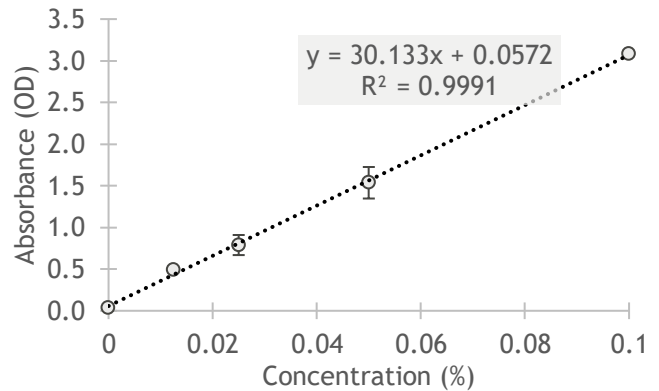

Figure 2-3 Example of a Trypan Blue Standard Curve
**Standard Curves:** Trypan Blue is a common dye reagent used to cell studies. By measuring the absorbance (the amount of light absorbed) of a sample containing Trypan Blue at 595 nm and comparing the result to a standard, one can determine the dye concentration in a solution. Standards can be created by adding a known amount of solute (in this case, dye) to a solution. The samples can be read in the plate reader to create a standard curve, or calibration curve (Figure 2-3). Unknown standards can be determined by interpolation. Typically, standards are made across a range of concentrations so that the expected values of the unknown fall within the range of the known standards.